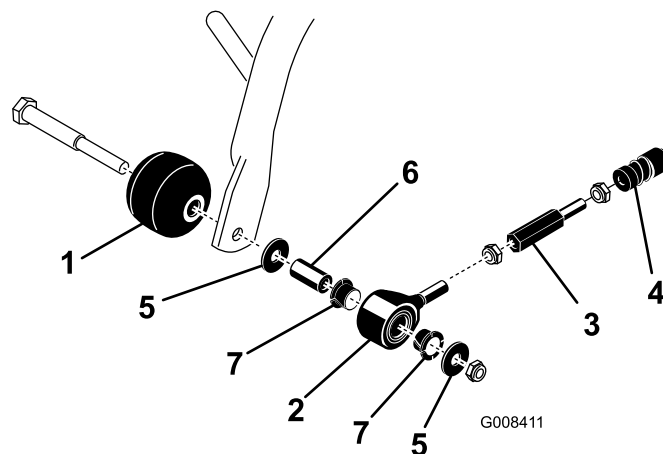

Figure 9
1. Mount an anti-scalp roller and a pull link assembly to the outer end of each front carrier frame with a roller shaft, spacer, washers and lock nut (Figure 9). Make sure the components are arranged as shown and the nylon bushings are in the pull link.